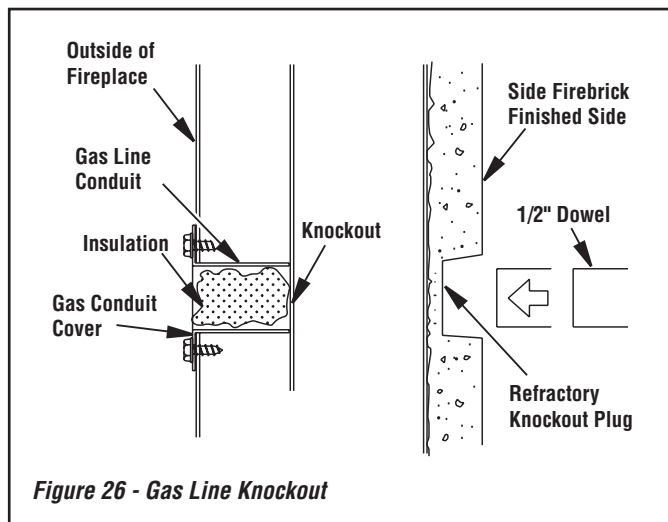

Figure 26 - Gas Line Knockout
1. Remove knockout indentation on refractory or firebrick wall located above the refractory hearth floor. Knockout indentation must be firmly tapped with any solid object such as a 1/2" dowel until it is released. Remove fragmented portions of refractory (see **Figure 26**).